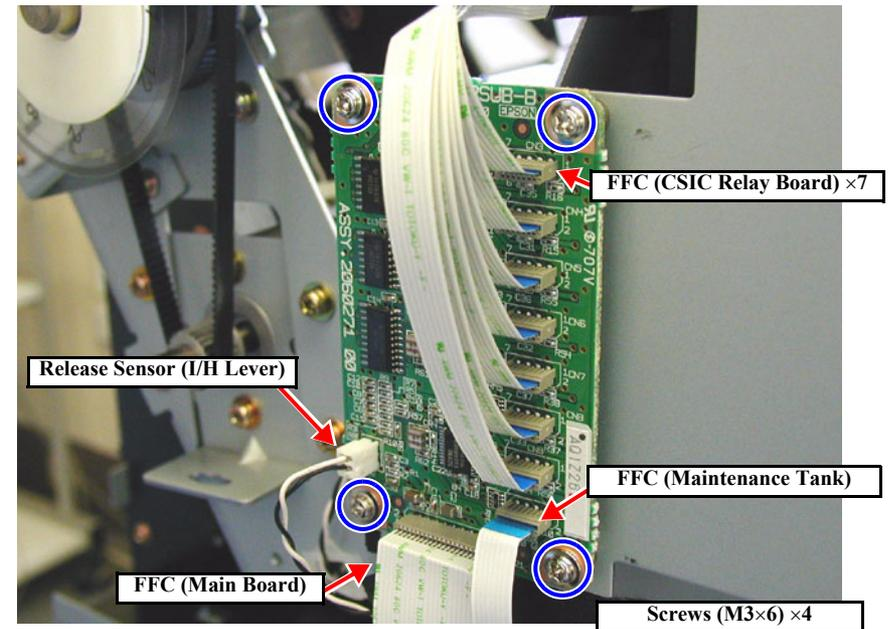

Figure 4-62. Disconnecting the C472\_SUB-B Board Connectors
2. Disconnect the seven FFCs (ink cartridge) and the two FFCs (Main Board/Maintenance Tank) on the C472\_SUB-B Board found at the left side of I/H Frame. (See Figure 4-62)
5. Disconnect the seven FFCs (ink cartridges), two FFCs (Main Board/Maintenance Tank) and the connector for the Release Sensor (I/H Lever) on the C472\_SUB-B Board found at the left side of I/H Frame. (See *Figure 4-62*)